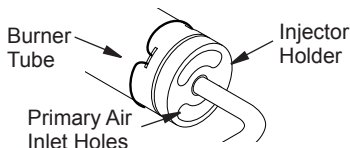

Figure 38 - Injector Holder On Outlet Burner Tube
2. Inspect burner, pilot and primary air inlet holes on injector holder for dust and dirt (see Figure 38).